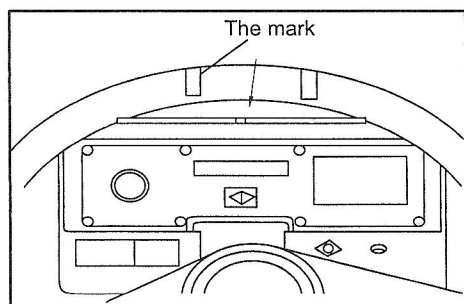
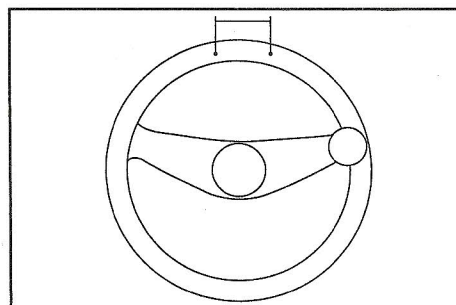

Fig. 05-22
Fig. 05-23
- (1) Turn gently the steering wheel to both left and right for 2-3 times, and check if the steering mechanism is in its center position, and then make marks on the instruments panel (Please see Fig. 05-22).
- (2) Turn the steering-wheel again to right, and make a mark at the position where you feel it is a little bit hard to turn the steering-wheel.
- (3) Turn the steering-wheel to left (in the opposite process to Step 2), and also make a mark at the position where you start to feel it is a little bit hard to turn the steering wheel. Afterwards, measure the distance between the two marks that you just made (Please see Fig. 05-23).